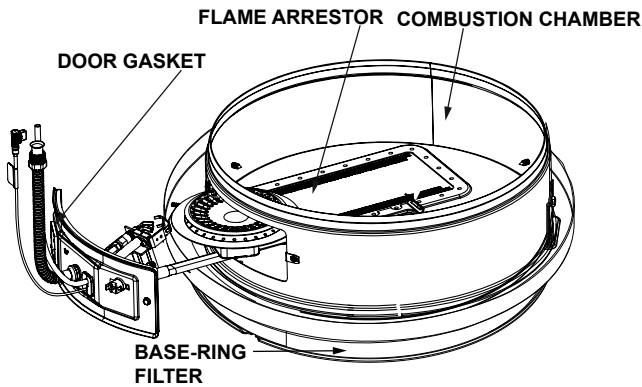

FIGURE 29.
1. At least annually check the base-ring filter (Figure 29) for any dust or debris that may have accumulated on the filter screen. **NOTE:** If the water heater is located in an area that is subjected to lint and dirt, it may be necessary to check the base-ring filter more frequently.
2. Use a vacuum cleaner/shop vac to remove all loose debris in the combustion chamber (Figure 29). Use compressed air to clear any dust or debris that may have accumulated in the flame-arrestor.